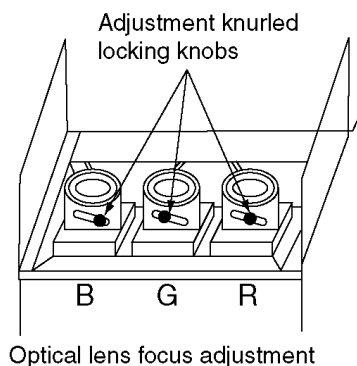

Fig. 4 (Rear view)
1. Optical focus adjustment is located on the top of each CRT lens system. Loosen the adjustment knurled locking knob. (Fig. 4)